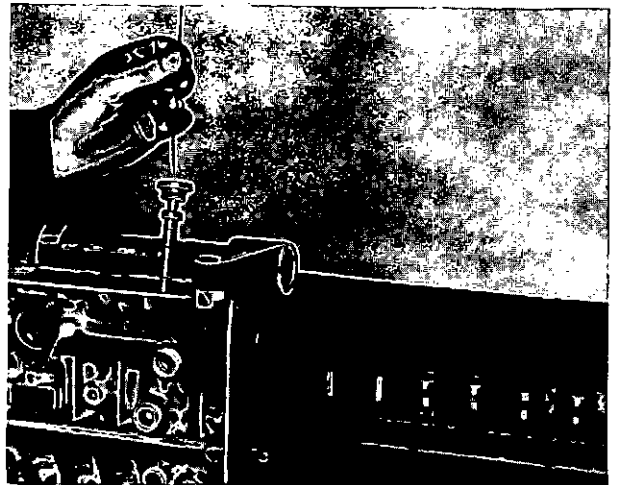
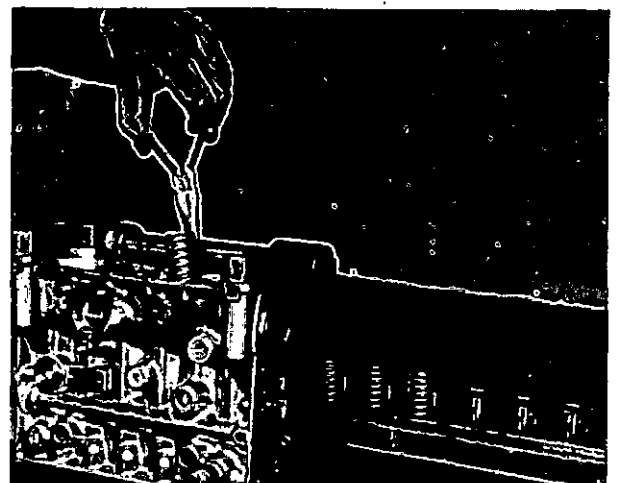
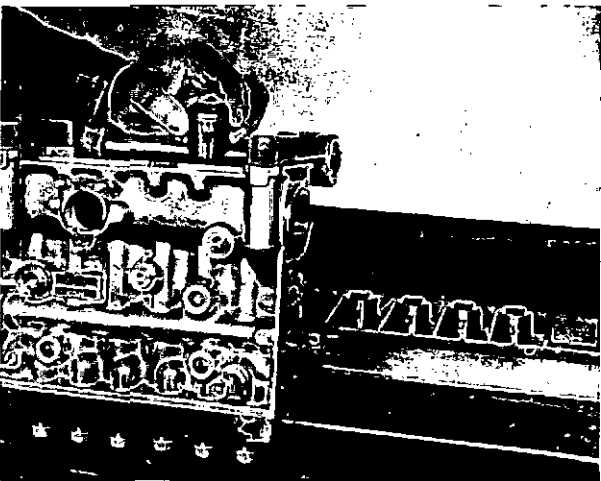

Fig. 14 Withdrawing plunger and lower spring plate
Fig. 15 Extracting plunger springs
Fig. 13 Removing tappets
11. Withdraw the roller tappets (fig. 13), use a wire hook to lift out the spring plate and pump plungers (fig. 14) and take out the plunger springs (fig. 15). Place each assembly in the appropriate compartment of its storage tray.